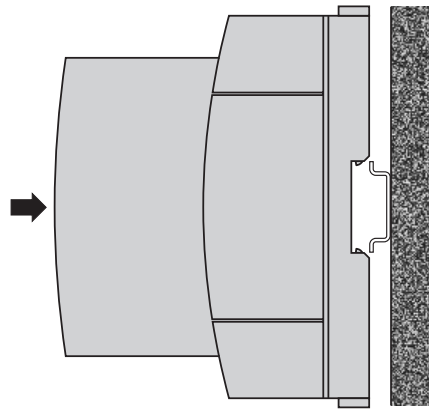

Fig. 5. Mounting on top-hat rail 35 × 15 or 35 × 7.5 mm.
Simply clip the device onto the top-hat rail (EN 50 022) (see Fig. 5).
While pressing the latch (4) in the base of the device (Fig. 5, left) pull out the isolating amplifier securing brackets (1). To return the brackets to their original positions, the latch (5) in the base of the device has to be depressed before applying pressure to the securing brackets (1) (see Fig. 5, right).